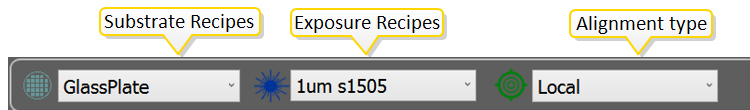

Figure 3-121 Quick selection bar
1. Select alignment type **Local** in the quick selection bar, see **Figure 3-121** below.